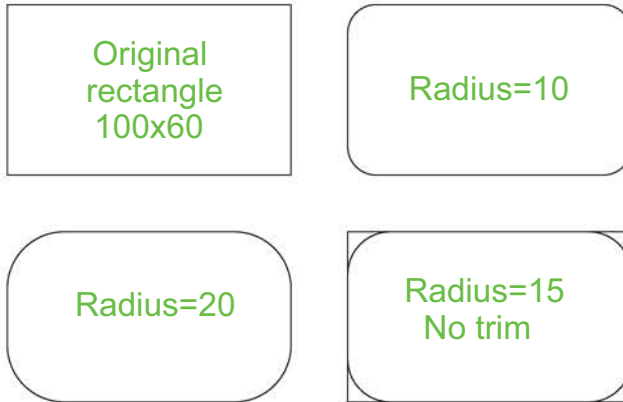

Fig. 6.38 Examples – Fillet
EXAMPLES – FILLET (FIG. 6.38)
1. Construct three rectangles 100 by 60 using either the **Line** or the **Polyline** tool (Fig. 6.38).
Three examples are given in Fig. 6.38.